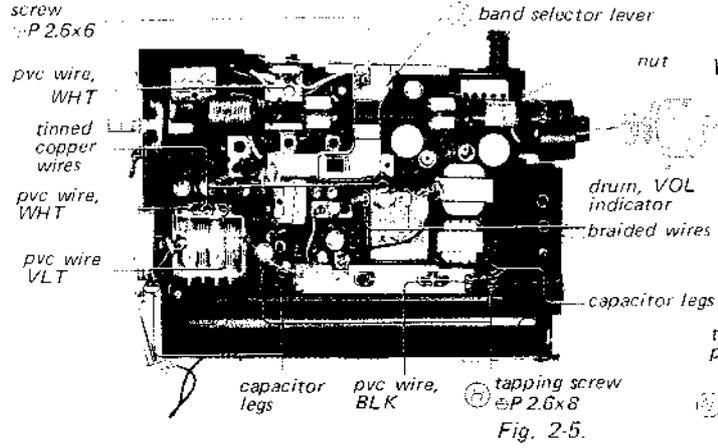

Fig. 2-5.
2. Unsolder the wires shown in Fig. 2-5.
3. Remove the two screws labeled (H) in Fig. 2-5.
4. Remove the screw labeled (L) and the hand selector lever labeled (J).
- Remove the VOL indicator drum and nut in Fig. 2-5.